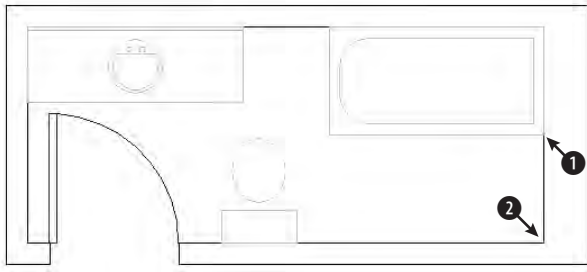

Figure 9-4: The bathroom plan
Specify base point or displacement: *Move the cursor to the Intersection at ❶ in Figure 9-4 and click.*
Specify second point of displacement or <use first point as displacement>: *Move the cursor to the Intersection at ❷ in Figure 9-4 and click.*